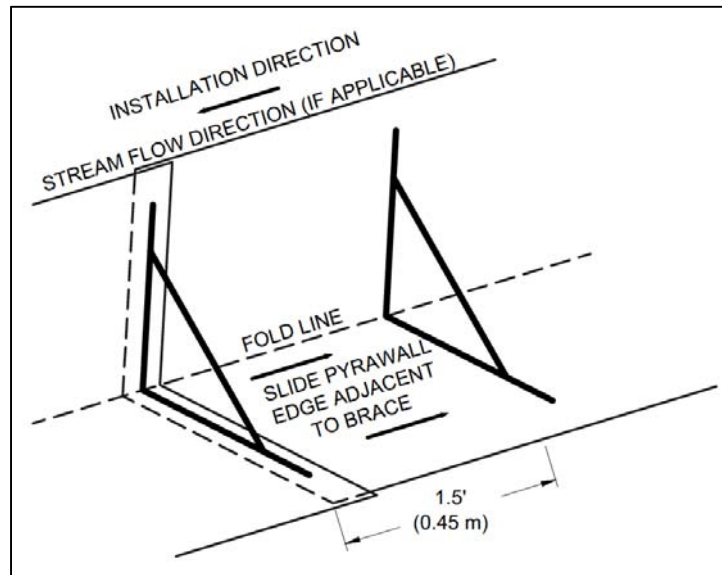

Figure 5 - PYRAWALL Overlap
9. To splice onto the end of a HPTRM roll (previous roll), install a brace at 1.5 ft (0.45 m) from the end of the roll (Figure 5). For the new roll to be added, insert a brace close to the roll end, then slide the new roll end into the previous roll end until the new roll end abuts against the final brace of the previous roll. After placing and compacting backfill, fold the top wrap back over the fill and stretch taut to provide an overlap of 1.5 ft (0.45 m).